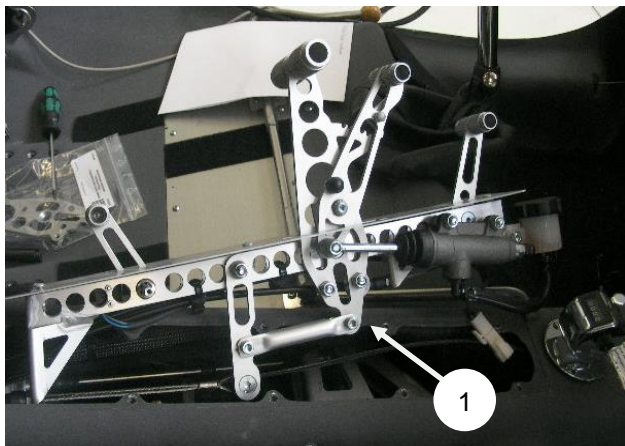
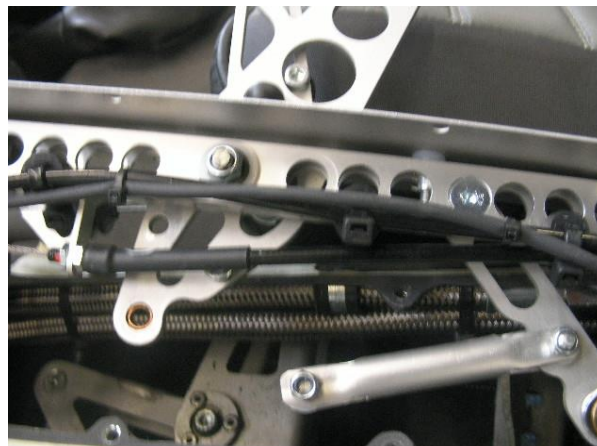

Fig. 1 – Demounted centre panel
Fig.2 – Lower throttle connection
- 2 If not installed demount centre panel according to MMM 67-10-00 4-1 (Fig. 1)
- 3 Lower throttle lever connection – demount front bolt of gas push rod (Fig. 1, 1 and Fig. 2)